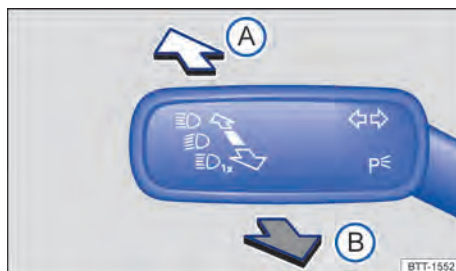

Fig. 83 On the left-hand side of the steering column: Turn signal and main beam lever
2. Push the lever forwards from the centre position → Fig. 83.
1. Pull the lever to the rear from the centre position → Fig. 83.
1. Pull the lever to the rear from the centre position and hold in this position → Fig. 83.